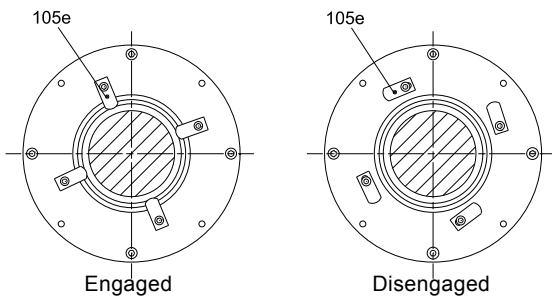

Fig. 103 Shaft seal locks
1. Make sure the shaft seal locks (pos. 105e) are engaged. See fig. 103.
2. Lubricate and fit the O-rings (pos. 105b, 105c and 106a).
3. Push the shaft seal (pos. 105) into place on the shaft.
4. Mount the screws (pos. 105d) and tighten them according to section 7. *Tightening torques and lubricants*.
5. Tighten the screws (pos. 104b) according to section 7. *Tightening torques and lubricants* so that the shaft seal liner is engaged with the shaft.
6. Disengage the shaft seal locks (pos. 105e) and retighten the screw (pos. 105f). See fig. 103.
7. Lubricate and fit the O-rings (pos. 104a and 49a) in the seal ring (pos. 104).
8. Fit the seal ring (pos. 104).